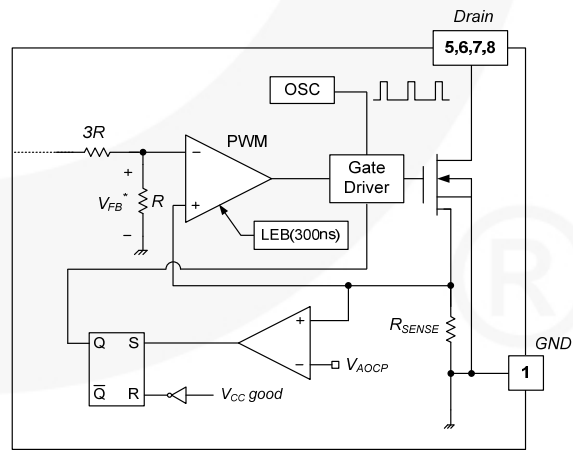

Figure 21. Abnormal Over-Current Protection
4.2. Abnormal Over-Current Protection (AOCP): When the secondary rectifier diodes or the transformer pins are shorted, a steep current with extremely high di/dt can flow through the SenseFET during the minimum turn-on time. Even though the FSL156MRBN has overload protection, it is not enough to protect in that abnormal case due to the severe current stress imposed on the SenseFET until OLP is triggered. The internal AOCP circuit is shown in Figure 21. When the gate turn-on signal is applied to the power SenseFET, the AOCP block is enabled and monitors the current through the sensing resistor. The voltage across the resistor is compared with a preset AOCP level. If the sensing resistor voltage is greater than the AOCP level, the set signal is applied to the S-R latch, resulting in the shutdown of the SMPS.